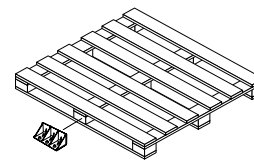

Figure 2A
**2 Quantity and Placement:** Determine if it is a light, medium or heavyweight load. For light loads, a single Floor Brace should be positioned against the center stringer of pallet or center of non-palletized freight (Figure 2A).